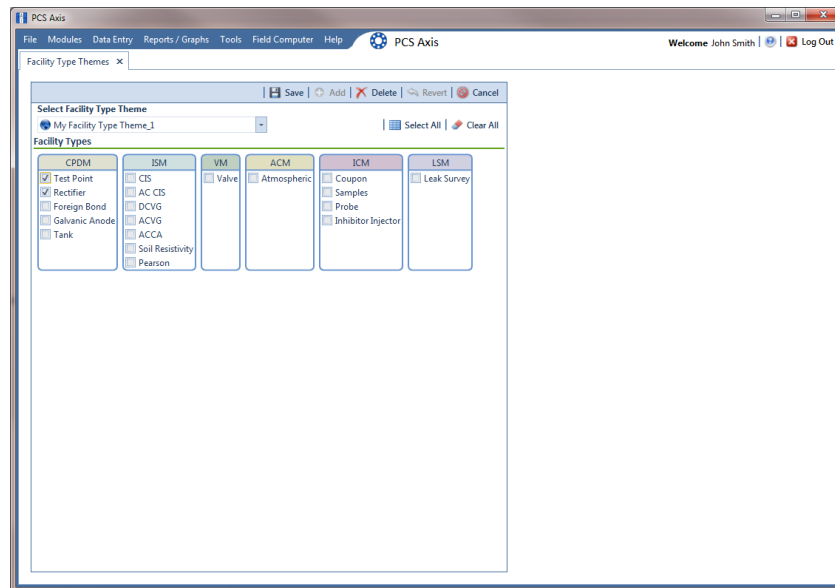

Figure 15-6. Facility Type Themes Management
- 1 If the *Facility Type Themes* window is not open, click **Tools > Facility Type Themes** (Figure 15-6).